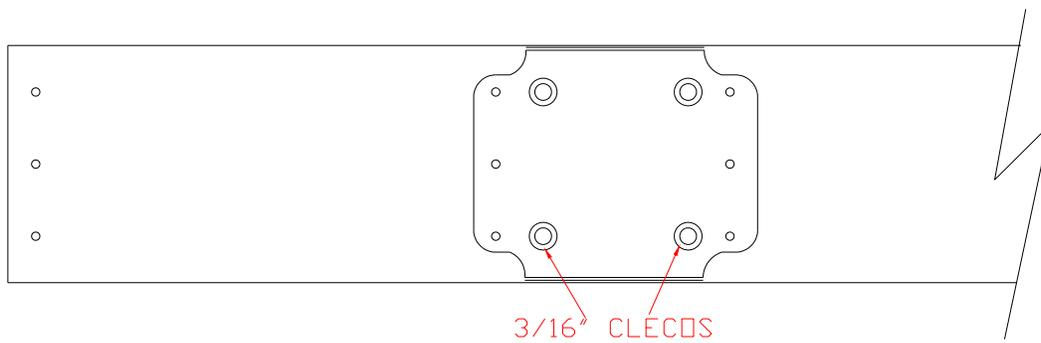

Figure 3.1.2
- 5) Cleco the four Elevator Hinge Doublers (EL-307) to the Elevator Spar (EL-309) using the four 3/16” holes that are in the Elevator Hinge Doublers. Figure 3.1.2.